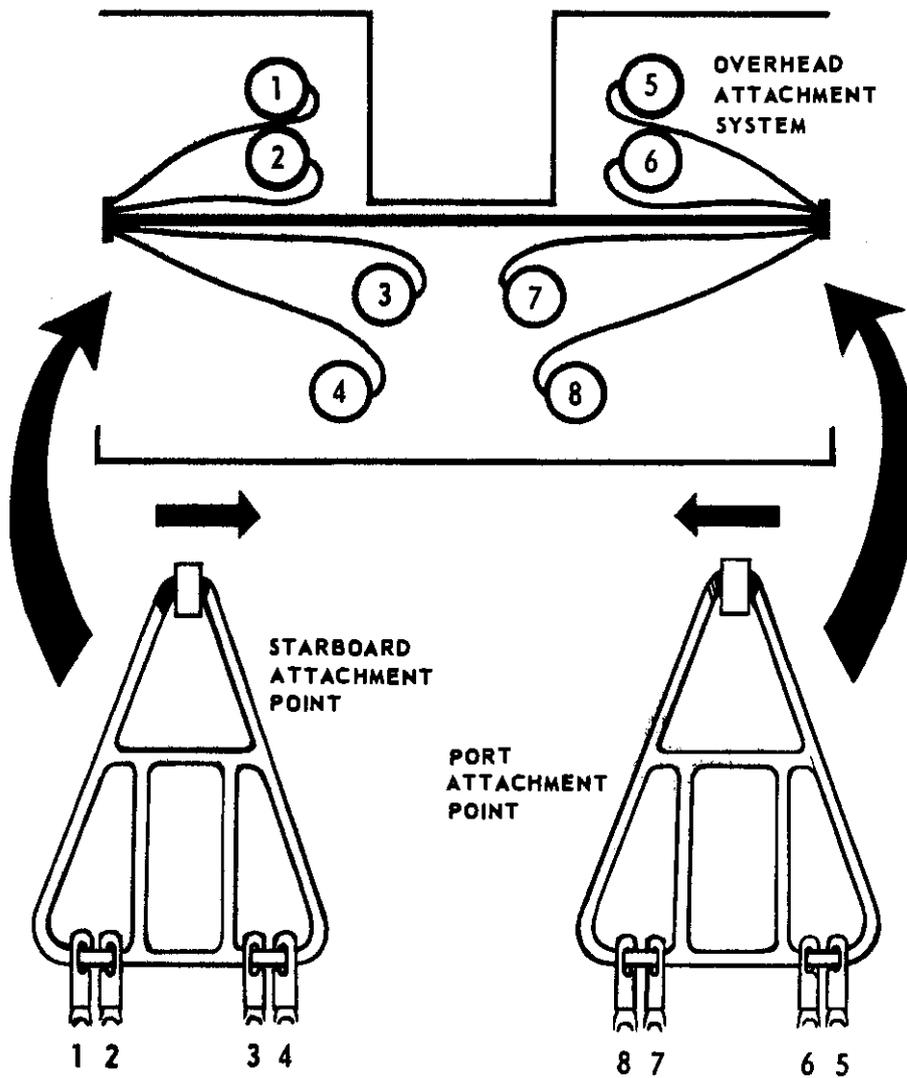

Figure 88. UH-1D seating arrangement and static line routing.
a. Parachutists Nos. 1 through 4 enter the cargo compartment through the right door, are hooked up by the jumpmaster in numerical order, and seat themselves as shown in figure 88.
b. Parachutists Nos. 5 through 7 enter the cargo compartment through the left door, are hooked up by the jumpmaster in numerical order, and seat themselves as shown in figure 88. The jumpmaster, No. 8, then hooks himself up.